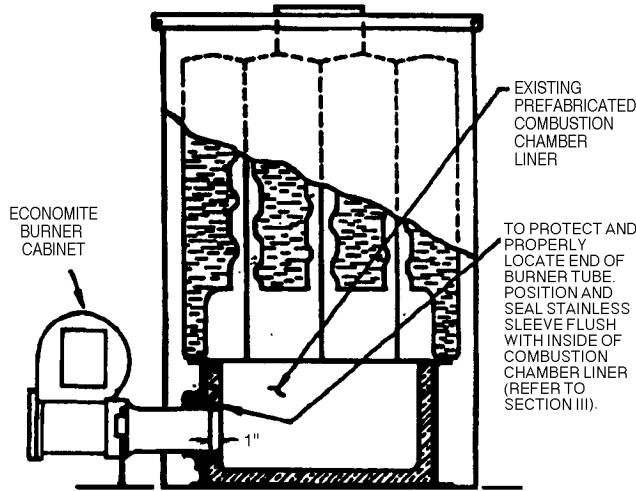

FIGURE 1 Dry Base Boiler with Combustion Chamber Liner (Warm Air Furnace Construction is Similar)
- The burner tube, or the stainless steel sleeve that is included with the burner, must be sealed air tight into the combustion chamber opening with refractory material as shown by Figures 1 and 2. The sleeve is preferred as it is designed to properly locate the end of the tube relative to the inside wall of the combustion chamber, and to permit burner removal without breaking the seal.
▲ WARNING: BURNER CABINET MUST BE MOUNTED IN ORIENTATION SHOWN IN FIGURES 1 AND 2. ANY OTHER MOUNTINGS MAY CAUSE A DANGEROUS CONDITION, AND WILL VOID BURNER WARRANTY AND AGENCY APPROVALS. NON-STANDARD ARRANGEMENTS MAY BE AVAILABLE FOR SOME MODELS-CONSULT FACTORY FOR DETAILS IF REQUIRED.